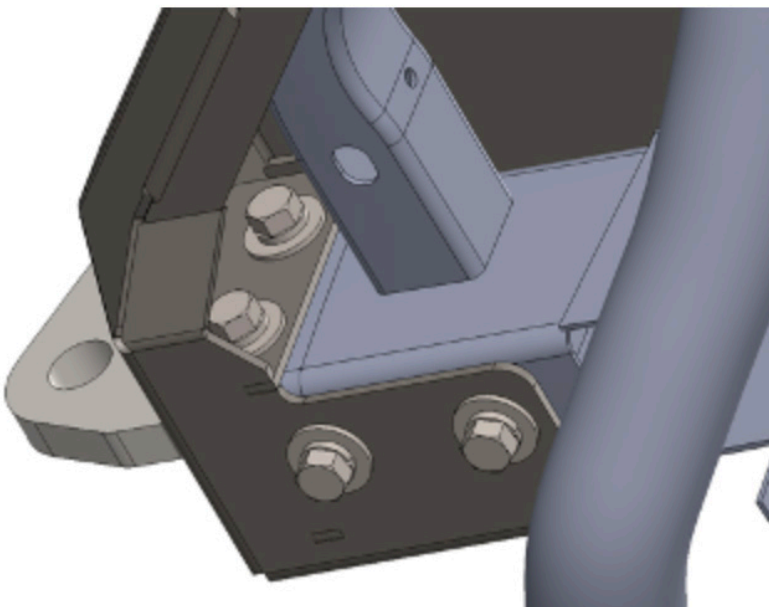

Figure 11
13. With assistance, hold the bumper up to the frame and use the provided eight (8) 1/2"-13 hex head bolts with washers to attach the bumper to the frame. Loosely install the 1/2" bolts. Figure 11.